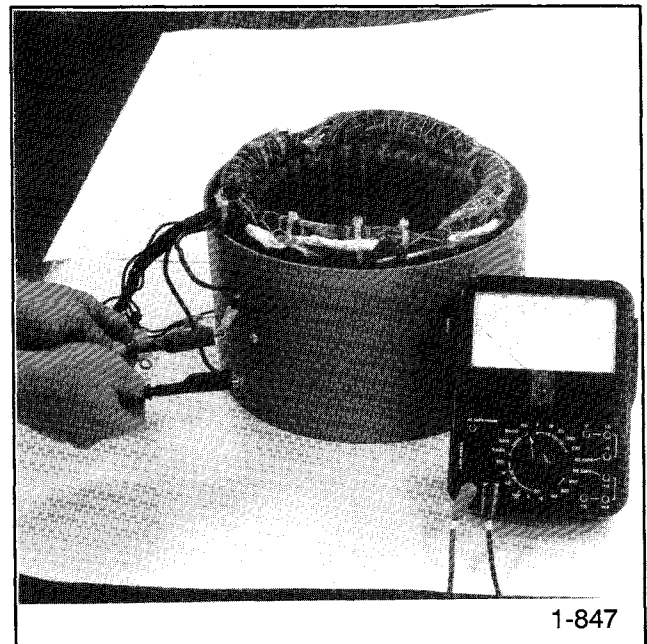

Figure 7-7. Stator Resistance Check.
1. To check stator continuity, set ohmmeter on R x 1 scale. Contact the red and black meter leads; adjust ohmmeter to zero ohms. Check stator continuity by connecting meter leads to stator leads as shown in Figure 7-7.